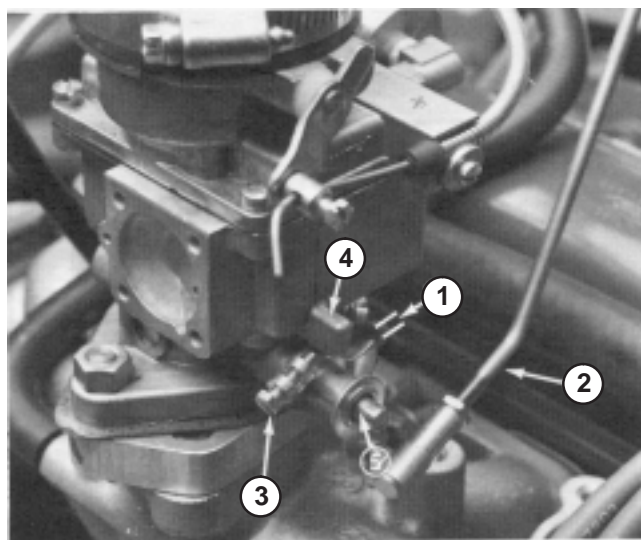

Figure 36
1. With engine shut off, move throttle control to FAST position and open hood. Check between the throttle arm and the stop on the carburetor base to make sure there is 1/32" (0.8 mm) gap (Fig. 36). If gap is not correct, adjust throttle rod (Fig. 36) by turning ball joint ends until gap is 1/32" (0.8 mm). If gap is correct, proceed to step 2.
3. Rotate throttle arm closed until it contacts stop (Fig. 36).
5. Release throttle arm, loosen jam nut on governor low idle speed screw and adjust it to attain 1500 ± 100 rpm (Fig. 36).